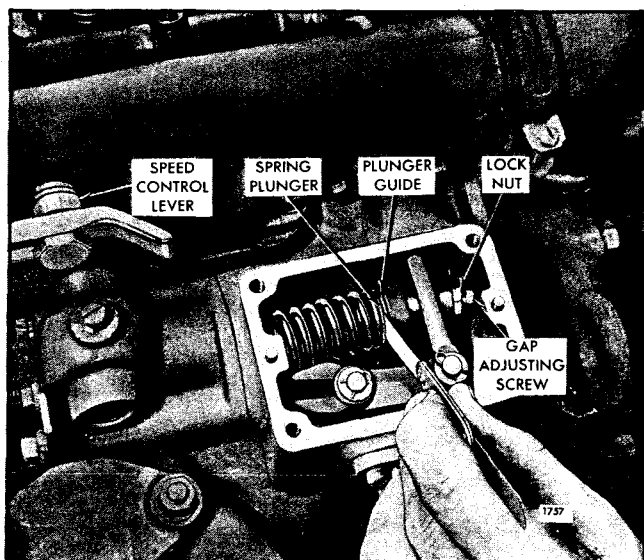

Fig. 1 - Adjusting Governor Gap
4. Place the speed control lever (Fig. 1) in the maximum speed position.
5. Insert a .006 " feeler gage between the spring plunger and the plunger guide as shown in Fig. 1. If